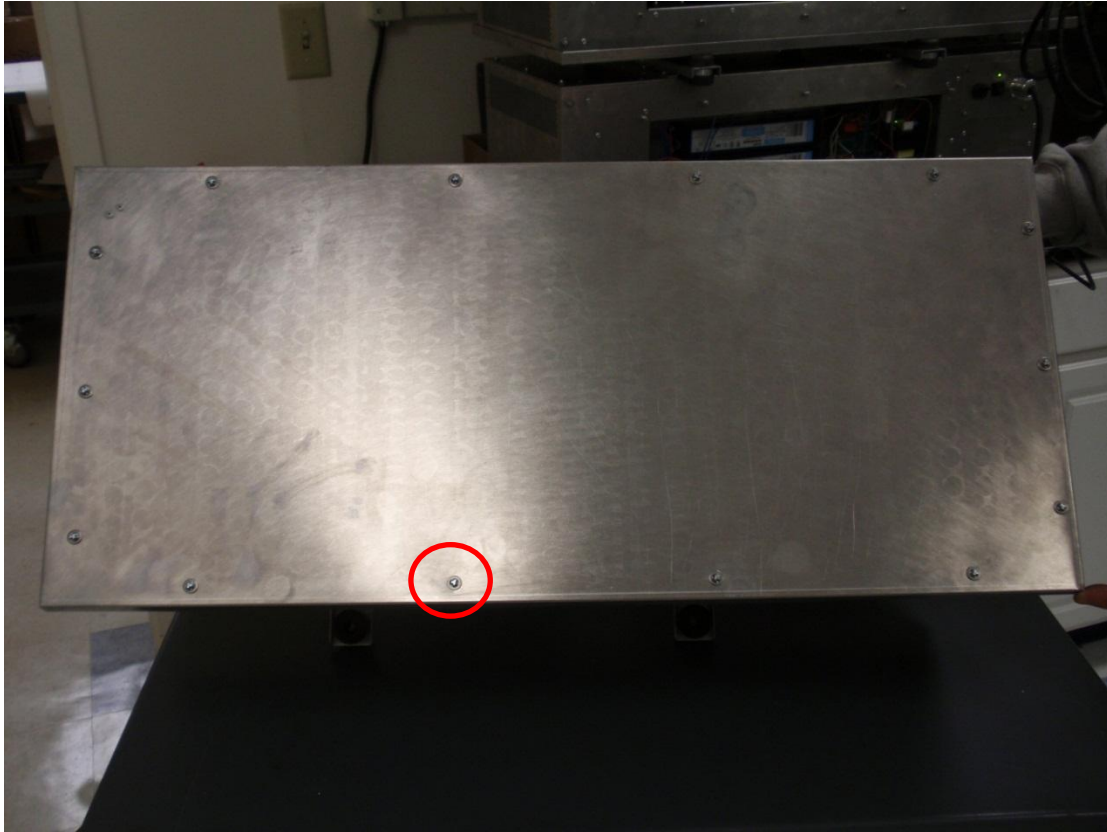

Figure 5: Cover and Cover Screws
- 5) Remove 14 screws on cover (See Figure 5) (take care not to lose screws)